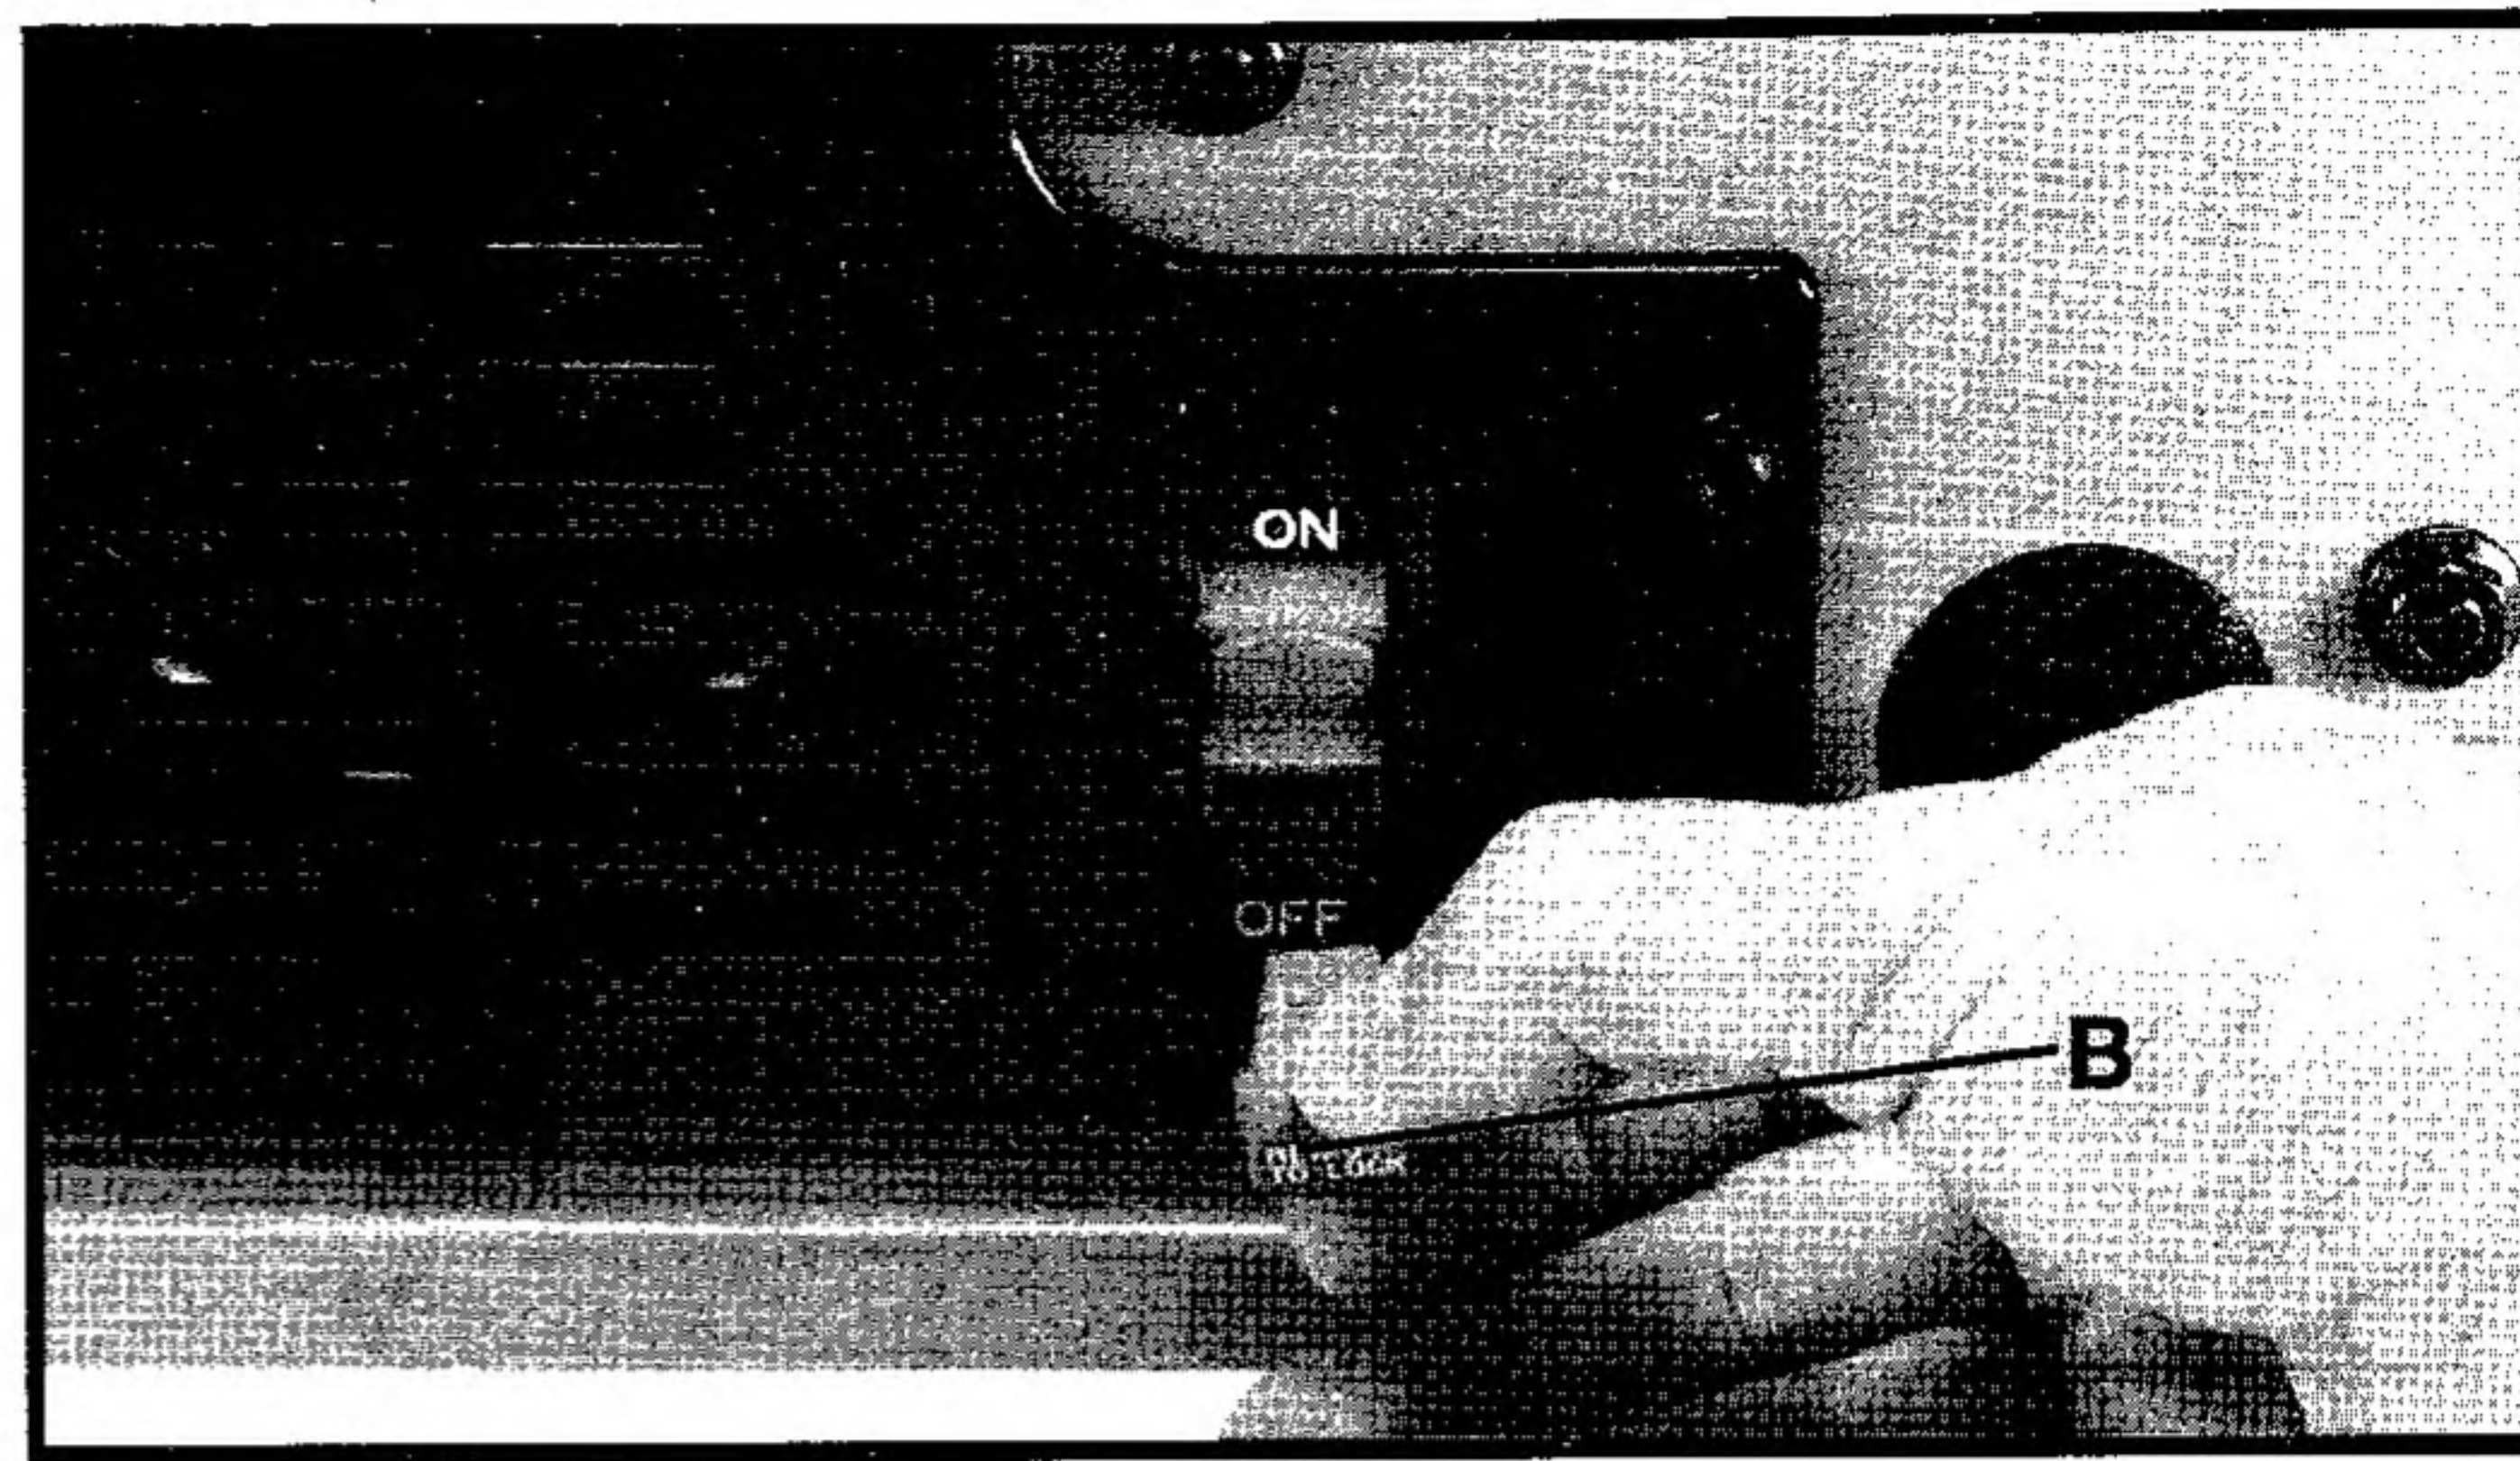

Fig. 22
**IMPORTANT:** When the tool is not in use, the switch should be locked in the "OFF" position to prevent unauthorized use. To lock the switch, grasp the switch toggle (B) Fig. 22 and pull it out of the switch. With the switch toggle (B) removed, the switch will not operate. However, should the switch toggle be removed while the saw is running, the machine can be turned "OFF," but cannot be restarted without re-inserting the switch toggle (B).